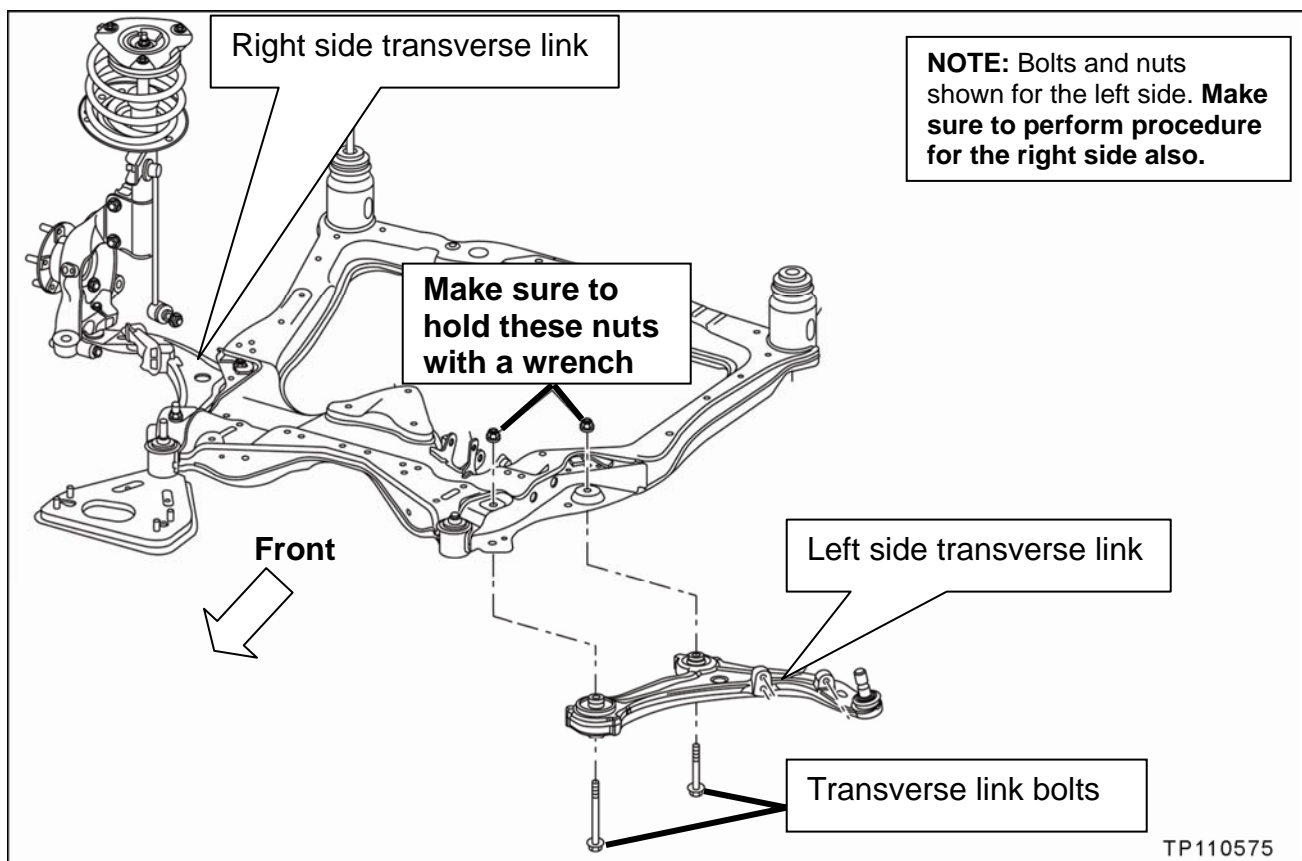

Figure 2
- **Make sure to use a wrench to hold the nuts (see Figure 2).**